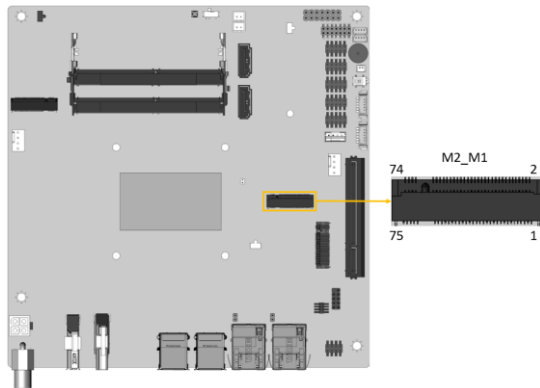

Figure 3-15: M.2 M-key Slot Location
- CN Type:** M.2 M-key 2242/2280
- CN Location:** See **Figure 3-15**